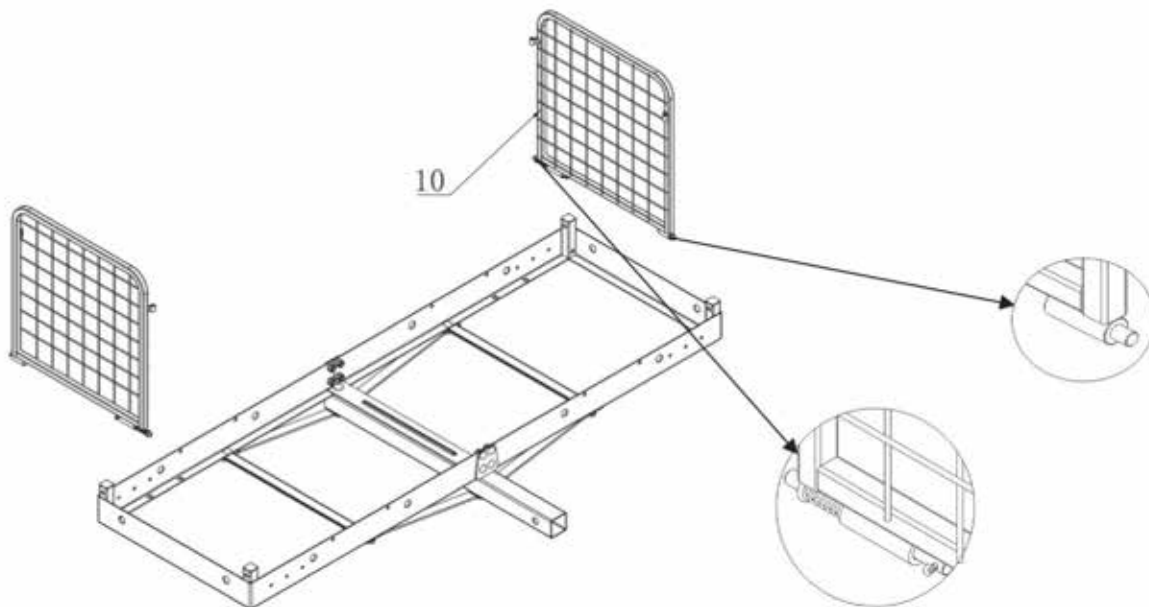

FIG. 4
Step 5. Insert the cylindrical pin with spring on the bottom of the side fences (10) into the side hole on the corner fixtures of the supporting frames (1). For ease of assembly, place with the fencing inside. See Fig. 4.